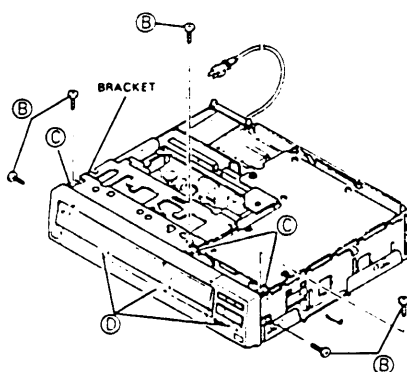

Fig. 1-1-2 Front panel assembly
2. Refer to Fig. 1-1-2. Take out 5 screws (B).
4. Carefully raise the front panel assembly and disengage 3 upper tabs (C).
5. Rotate the panel in the forward direction to disengage 3 tabs (D).